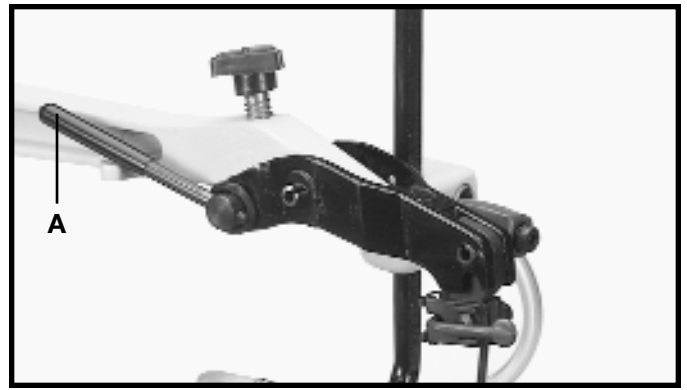
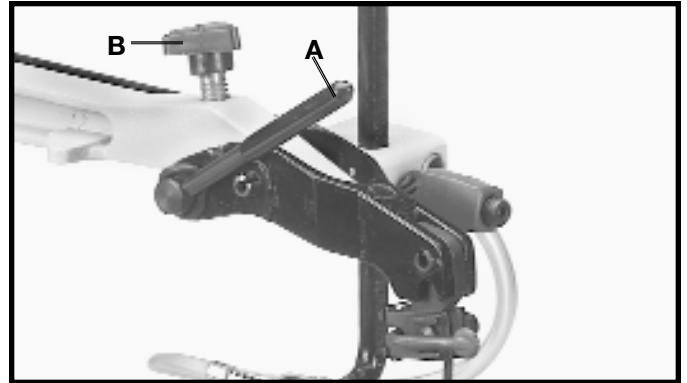

Fig. 27
Fig. 28
Tension is applied to the blade when the blade tension lever (A) Fig. 27, is in the rear position, as shown. When the lever (A) is moved forward, as shown in Fig. 28, blade tension is released.
When adjusting blade tension, lever (A) should be in the forward position, as shown in Fig. 28. To increase blade tension, turn knob (B) Fig. 28, clockwise and to decrease blade tension, turn knob (B) counterclockwise. **NOTE:** It is necessary to adjust the blade tension knob (B) only when the blade is removed from both upper and lower blade holders and a new or different type of blade is assembled to the holders. It is not necessary to adjust blade tension when the blade is removed and replaced in only the upper blade holder as in performing inside cutting operations.
Adjusting the blade for proper tension is usually accomplished by trial and error. One method is to pull back on the blade tension lever (A) Fig. 28, the blade should start to have tension (resistance) when the blade tension lever is half way between open Fig. 28, and closed Fig. 27. Finer blades require more tensioning while thicker blades require less tension.